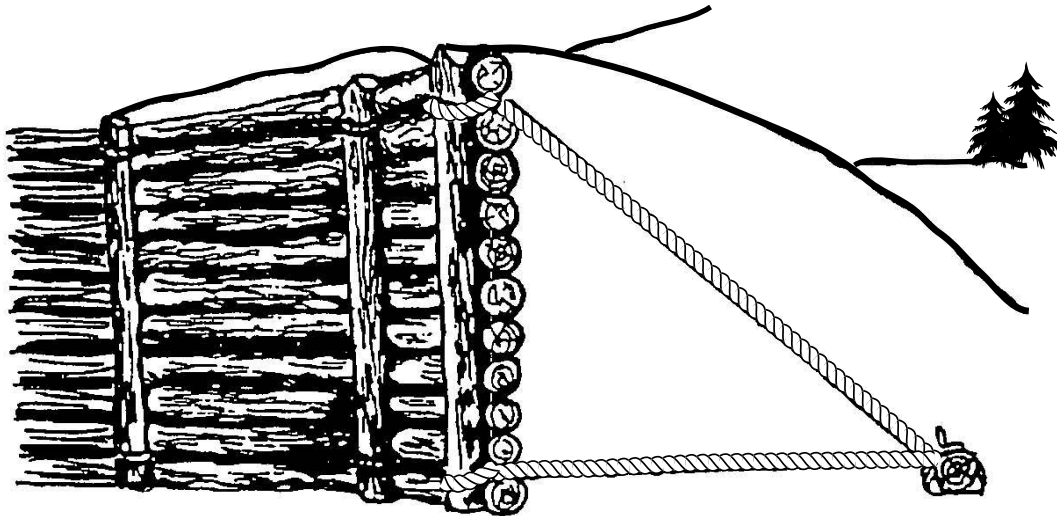

Figure 14-9. Anchor Supported Wall.
- Stack logs on the enemy side of the two original logs and pile snow, rocks, and branches on the enemy side of the stacked logs to hold these logs in place and to make the position appear to be a snow bank (see Figure 14-9).